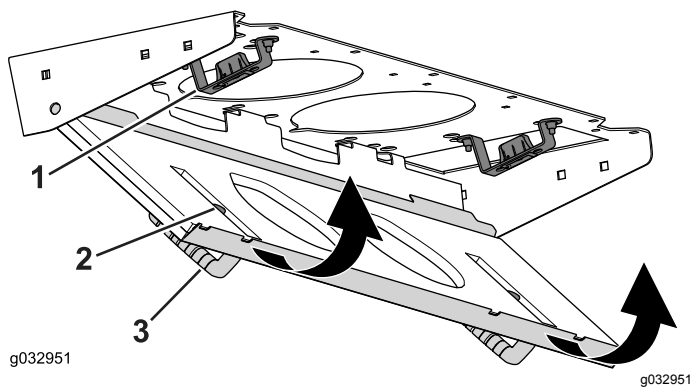

Figure 94
4. Rotate the filter screen around the tabs until the latch locks into the latch-mount assembly (Figure 94).